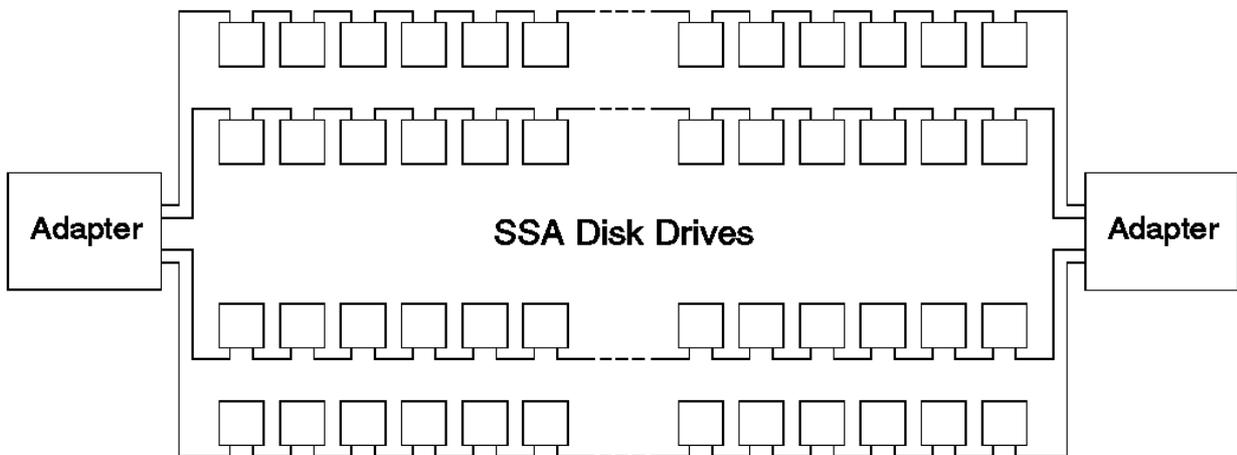

Figure 2-7. Two Loops with Two Adapters
Figure 2-7 shows an example configuration that has two loops and two adapters:
- When an SSA adapter is connected to two SSA loops, and each loop is connected to other adapters, all adapters must be connected to both loops (see Figure 2-7 in topic 1.2.1.6).